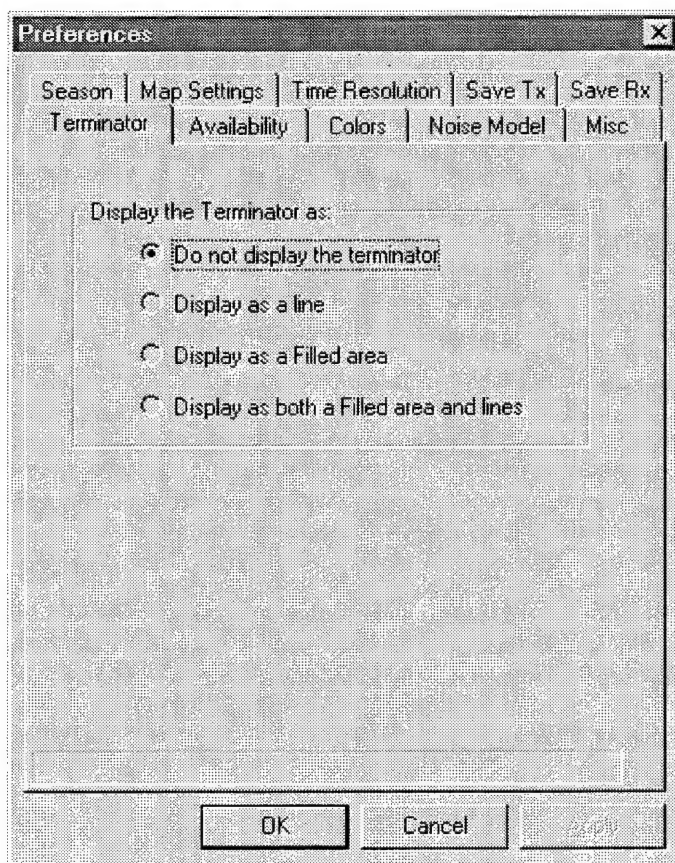

Figure 33. Terminator Preference page.
The Terminator Preference page (figure 33) turns the display of the day/night terminator on or off for coverage charts. If the terminator display is on, three different displays may be selected: (1) a line-only representation of the day/night terminator, (2) a filled representation of the terminator (filled areas are night), and (3) a filled area and line representation of the terminator.